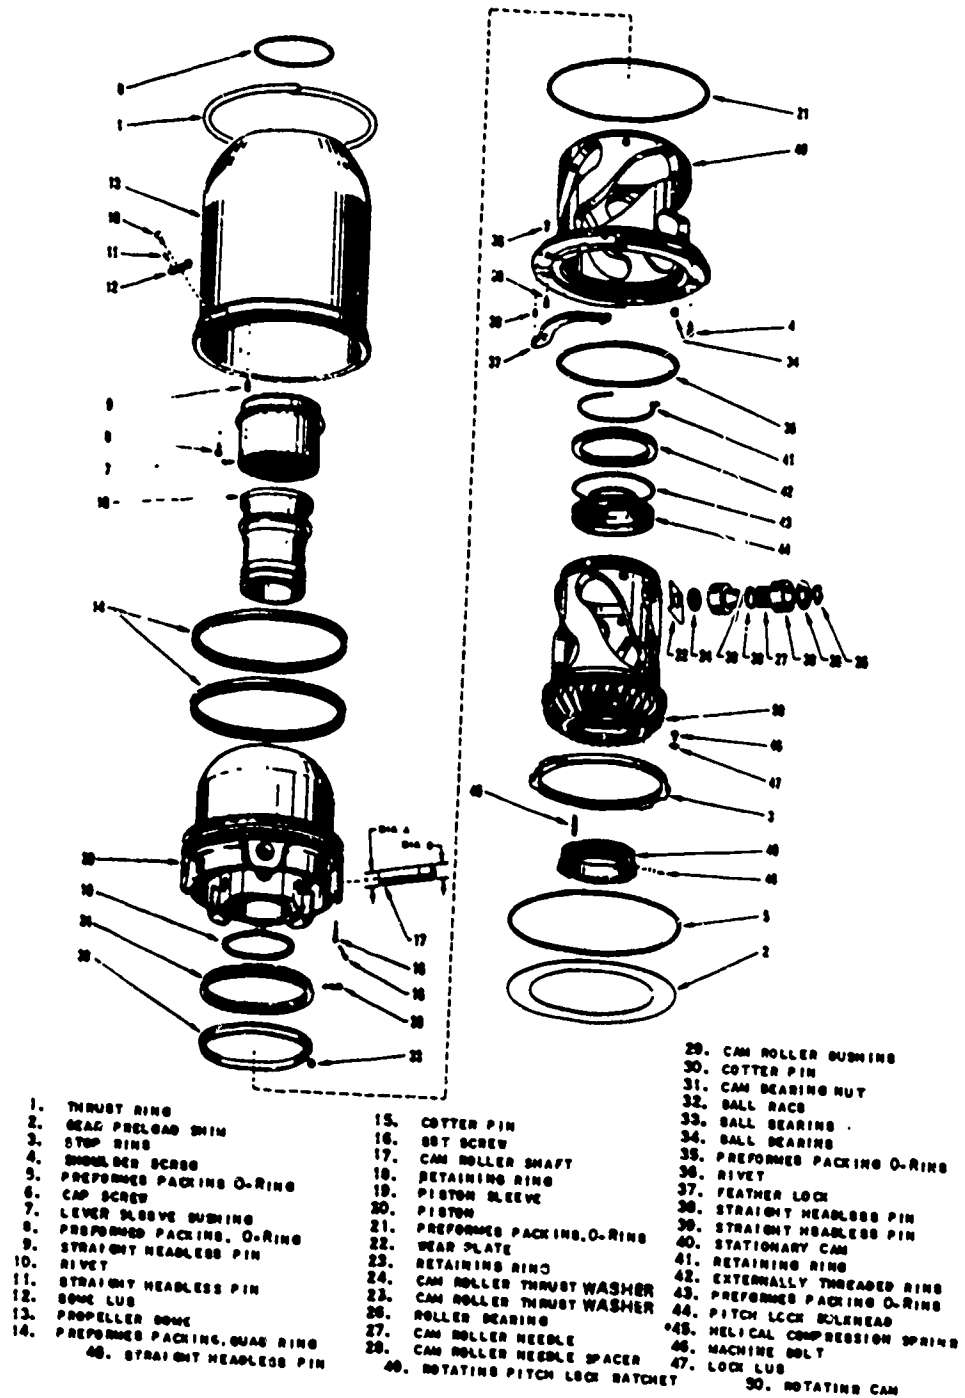

Figure 1. Dome Assembly.
The dome (shell) encloses the internal parts of the dome and is held in place by the dome retaining nut and four special screws (shoulder screws). See figure 1, item 4. Inside the front end is the lever sleeve bushing (item 7) which supports the low pitch stop lever assembly.
The stationary and rotating cams serve the same function on this propeller as other hydromatic propellers. The cam assemblies are held together by a cam bearing nut. See figure 1, item 31. There are 5 cam roller tracks instead of 4. This distributes the pitch change loads of the dome assembly more evenly. The cam rollers have only 2 sets of rollers and 2 sets of needle bearings. See figure 1, items 22 thru 29. The cam roller assemblies will not accidentally come apart during disassembly. The thrust washers are pressed on the roller shaft ends to keep the assembly in one piece.
Only one stop ring is used to set the blade angles. This is the feather stop ring. See figure 1, item 3. It has a double set of lugs. One set is for feather angle and one set for mechanic reverse angle. The stop ring is indexed to the rotating cam by aligning the index number 14 on the stop ring to the tooth representing 92.5 degrees on the rotating cam. This will also set the mechanical reverse blade angle limit to a -9 degrees. The desired reverse angle will be scheduled by the control assembly. It will hydraulically be held at an angle of -7 degrees. The blades will stop at feather angle when the stop ring lugs contact the lugs on the stationary cam. Feather locks will engage with the stop ring and hold the rotating cam at this setting. See figure 1, item 37.
Note: Use figure 1 and name the following parts which: